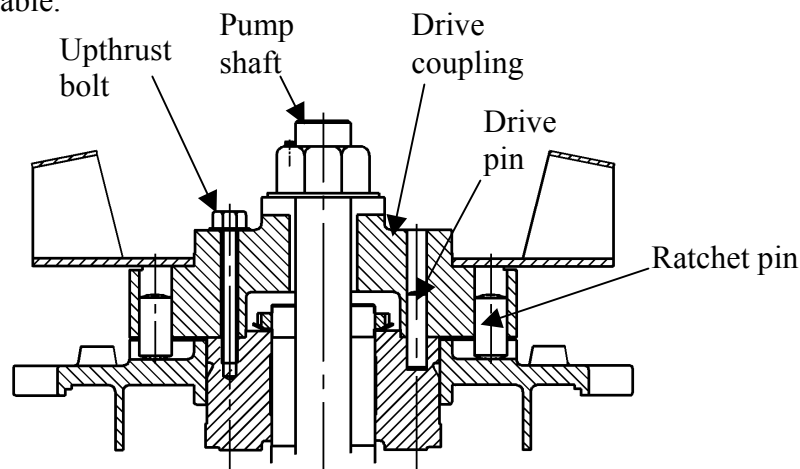

Fig. 9
Bolted coupling as Fig.9
3.3.9 Non-reverse ratchet/coupling, as Fig.9 (If necessary)